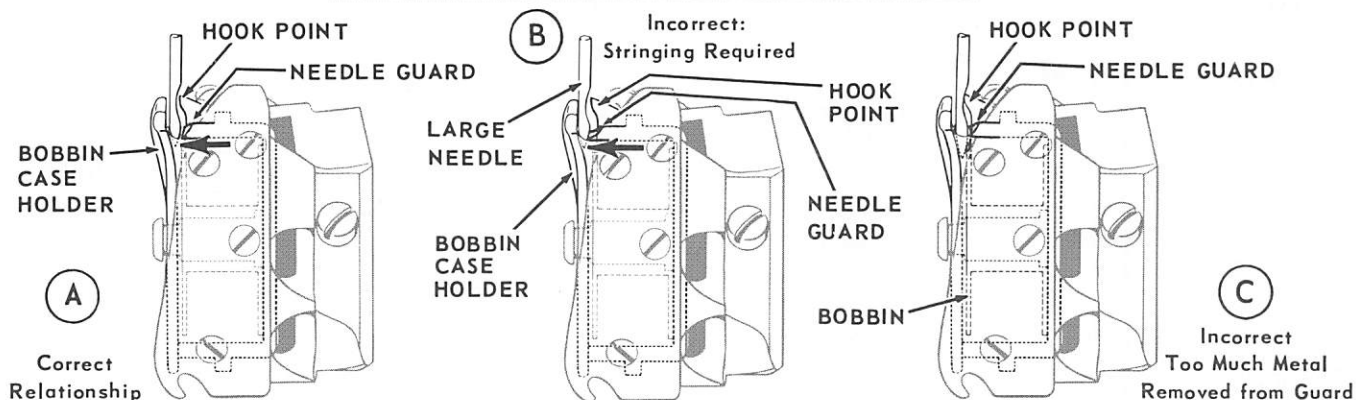

Fig. 51. Needle Guard at Loop-Taking Time
The needle guard on the bobbin case holder, shown in Figs. 51 and 54, should prevent needle from contacting hook or bobbin case at any time. See Fig. 51 (A) for correct relationship. When large needles (size 20 or larger) are used, needle guard may deflect needle too far toward left resulting in damage to needle. See Fig. 51 (B). To avoid this, it may be necessary to string the needle guard in accordance with the following instructions.
**EXTREME CARE** should be taken to avoid removal of too much metal as this may permit needle to strike hook. See Fig. 51 (C). Bobbin case holder will then need replacement.